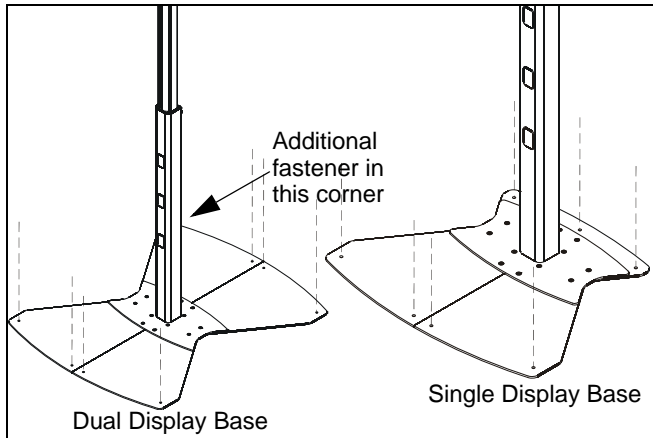

Figure 11
1. Attach the floor stand to the floor using 5/16" or 3/8" fasteners (not provided) which are appropriate for the floor's construction. (See Figure 11)